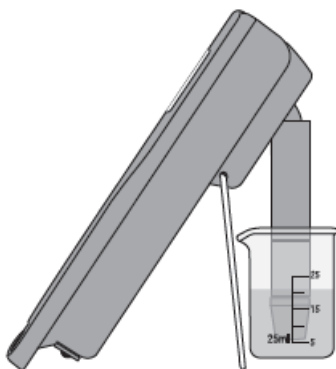

Fig 3
3. Refer to Figure 3: place the test container under the instrument and place the tester probe (5) into the brake fluid.
3. Refer to Figure 3: place test container under the instrument, and place the tester probe (5) into the brake fluid. Note: take care with the tester probe, do not drop or knock, which may damage sensor and ceramic components.